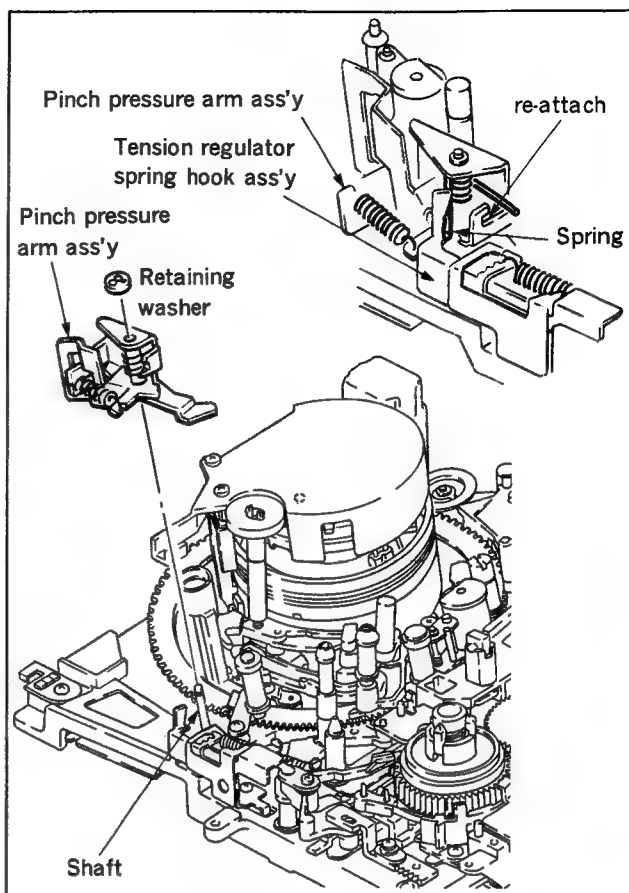

Fig. 4-16-3 Pinch pressure arm ass'y removal
3. Pinch pressure arm ass'y removal (Fig. 4-16-3)